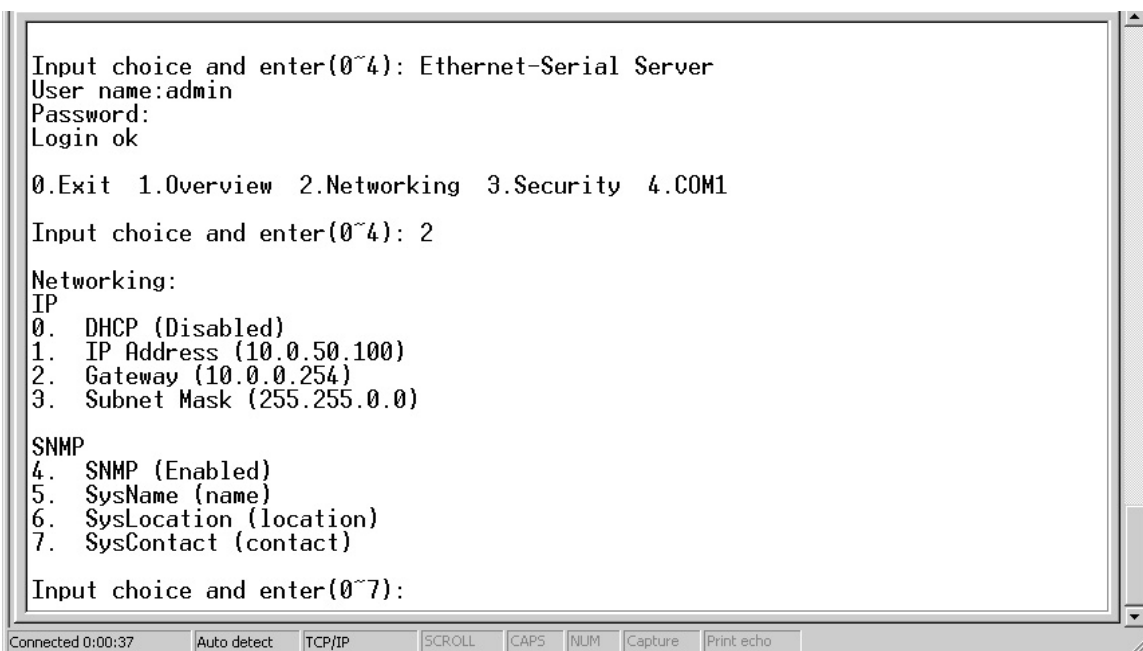

Figure 3.5 Main menu
1. After verifying the password, the following terminal screen appears. (Figure 3.5)